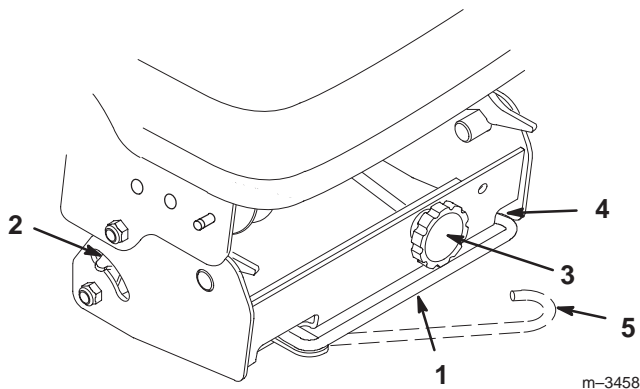

Figure 15
3. Release the belt tension release arm on the pulley box housing and swing it out toward you (Fig. 15).
6. Loop the other end of the belt over the drive pulley of the mower. Additional belt slack can be obtained (if needed) by turning the belt tension adjustment knob (Fig. 15).
- C. If the tension indicators are not in the same position on both the left and right sides, release the belt tension, turn the adjustment knob and repeat steps A and B until the indicators move to the same position (Fig. 15).
- D. Once the indicators are in the same position on both sides, swing the tension release arm into the pulley box and seat it by moving it into the position shown in Fig. 15.